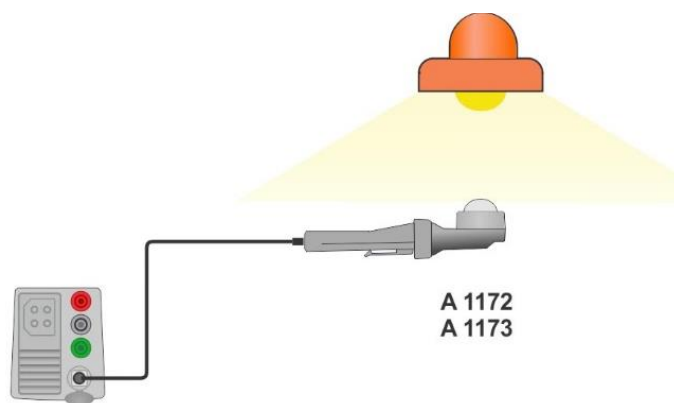

Fig. 4.100: LUXmeter probe position
- › Hold LUXmeter proben under lyset, se **Fig. 4.100**